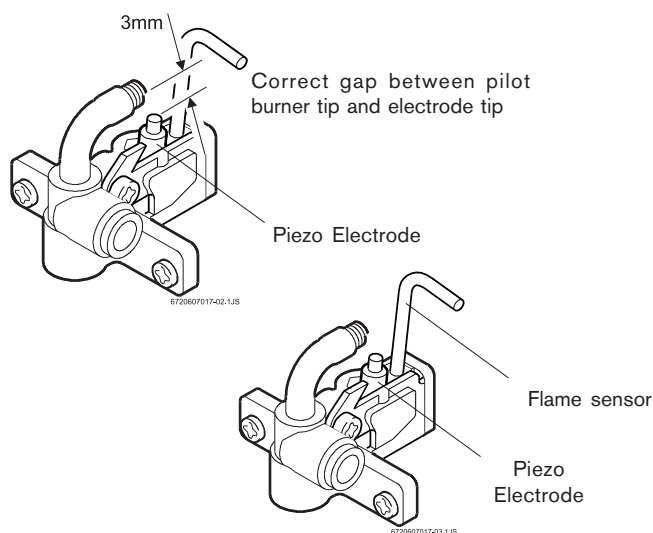

Fig. 12 - Characteristic Pilot Flame
Pilot Flame: The pilot flame should burn with a clean, sharp, blue flame and should resemble the diagram in Fig. 12. If the flame is soft and yellow, the pilot burner orifice may need to be cleaned or serviced. The pilot flame should be approximately 2 inches long, extending past the flame sensor. If the flame is too small, it will not reach the flame sensor and the burners will not come on.
1. Confirm the flame sensor is in its proper position. see Figure 12.